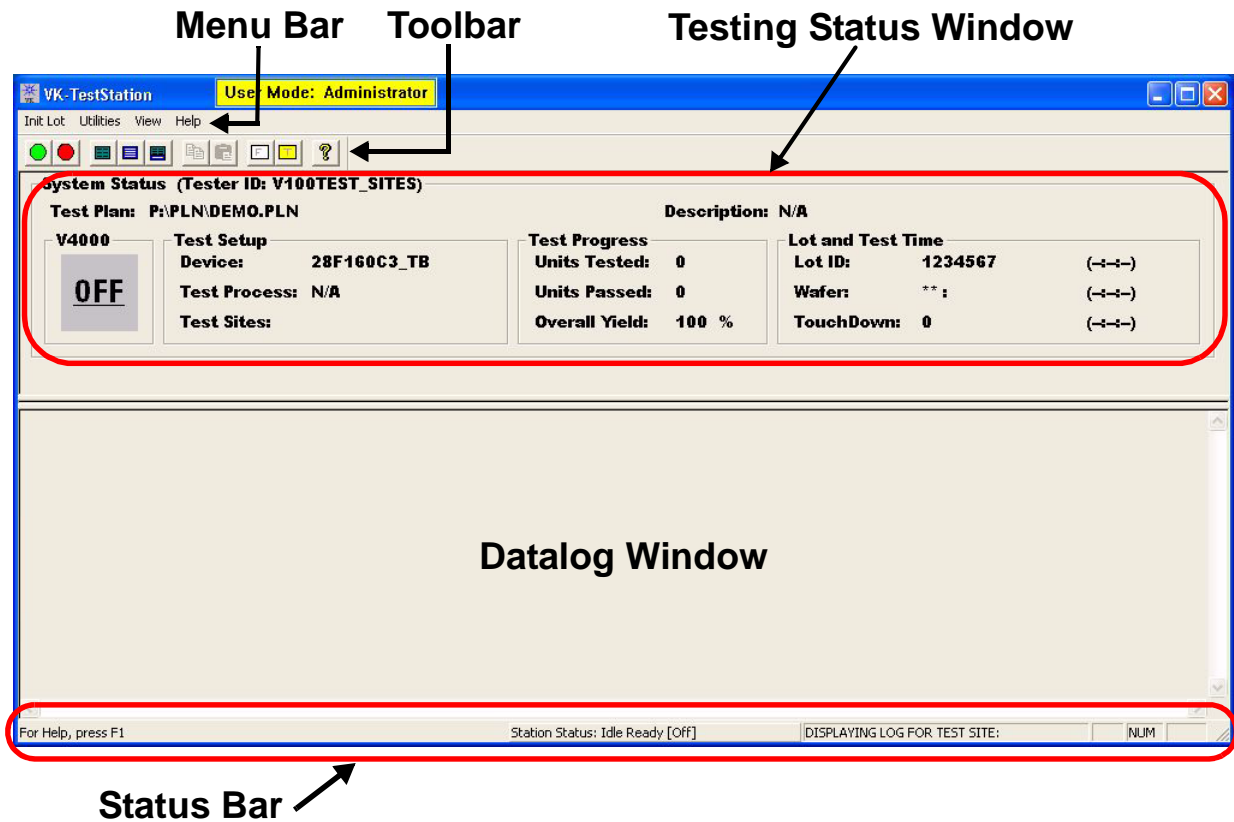

Figure 4-33. VK Test Station Main Window
- 1 Selecting  > All Programs > Versatest Test System Software > VK Test Station displays the VK Test Station main window (similar to Figure 4-33).